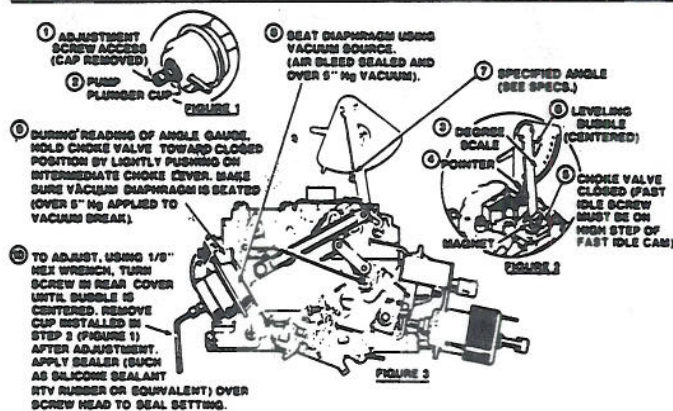

Fig. 16 Secondary vacuum break adjustment. 1981-82 E2SE carburetor
1. Rotate degree scale so that zero is opposite pointer, then with choke valve completely closed and fast idle screw on high step of fast idle cam, place magnet on top of choke valve and rotate until bubble is centered, Fig. 16.